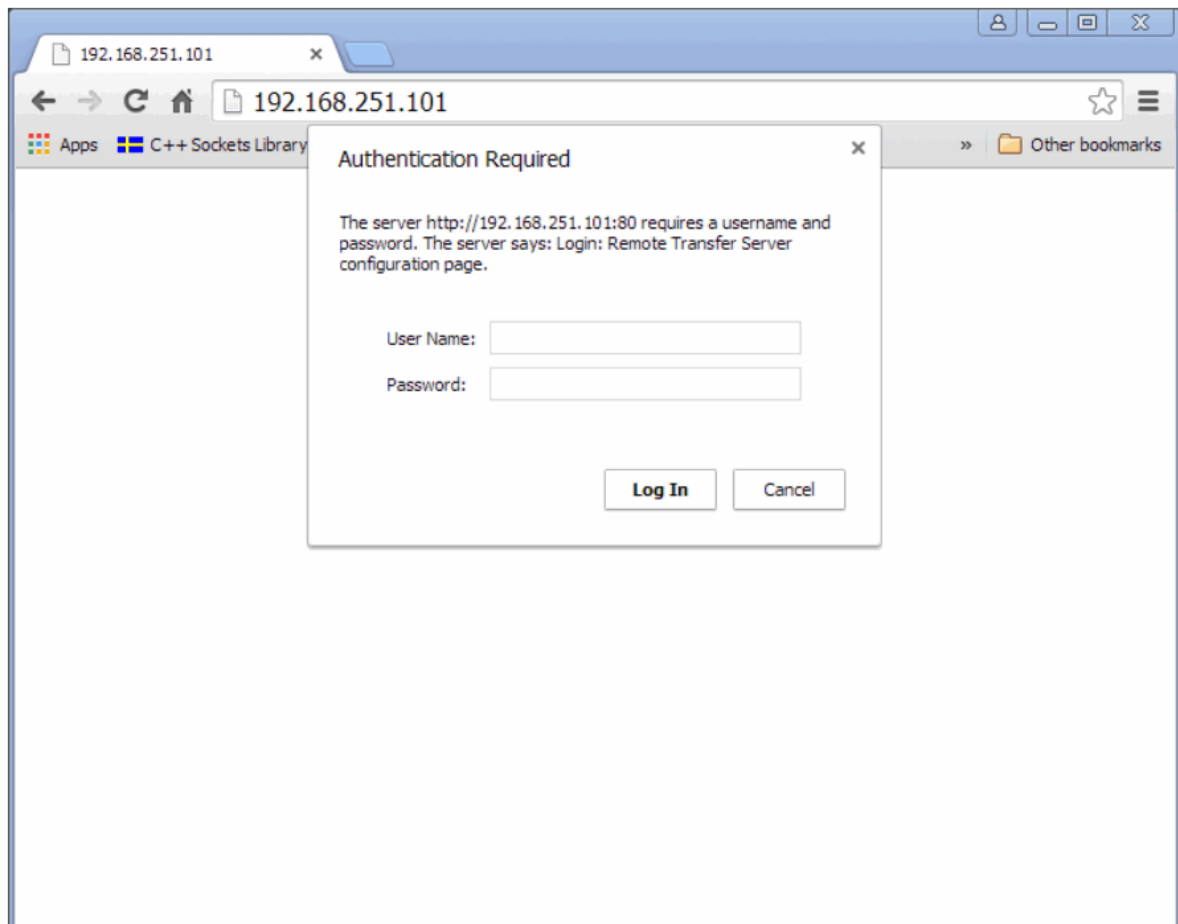

Figure 10 SNU Assy Access Credential Request
5. If the connection is working, the SNU Assy will request the browser to collect access credentials (see Figure 10).